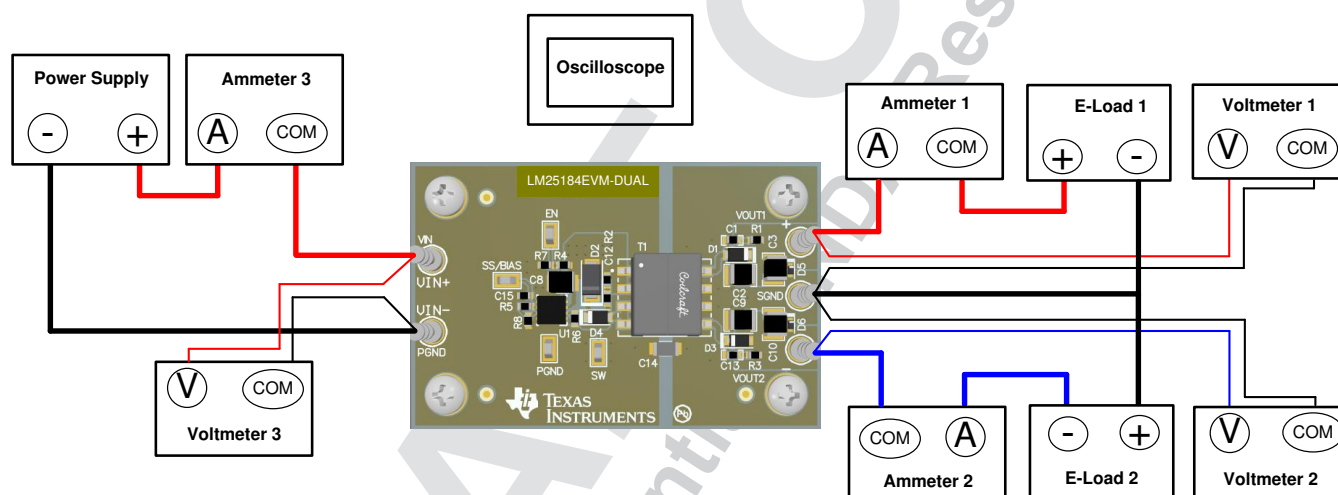

Figure 2. EVM Test Setup
Referencing the EVM connections described in Table 3, the recommended test setup to evaluate the LM25184EVM-DUAL is shown in Figure 2. Working at an ESD-protected workstation, make sure that any wrist straps, boot straps, or mats are connected and referencing the user to earth ground before power is applied to the EVM.
- Prior to connecting the DC input source, set the current limit of the input supply to 100 mA maximum. Ensure the input source is initially set to 0 V and connected to the VIN+ and VIN– connection points as shown in Figure 2. An additional input bulk capacitor is recommended to provide damping if long input lines are used.
- Connect electronic loads to VOUT1, VOUT2 and SGND connections as shown in Figure 2. Set the load to constant-resistance mode or constant-current mode at 0 A before applying input voltage.